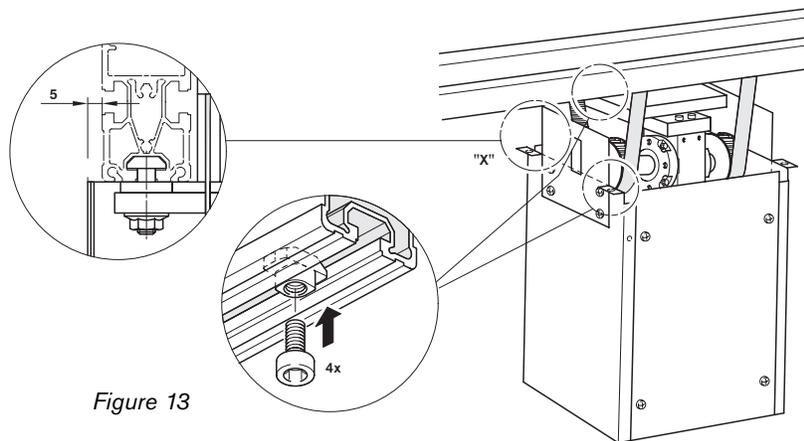

Figure 13
- 3 Lift the guard into position as shown in Fig. 13 making sure that no wires or pneumatic hoses are being pinched.